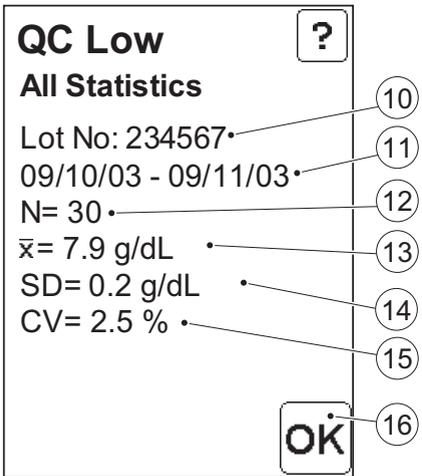

FIGURE 8-13
h) To continue to the statistics image, *FIGURE 8-13*, press the Confirm button (9).